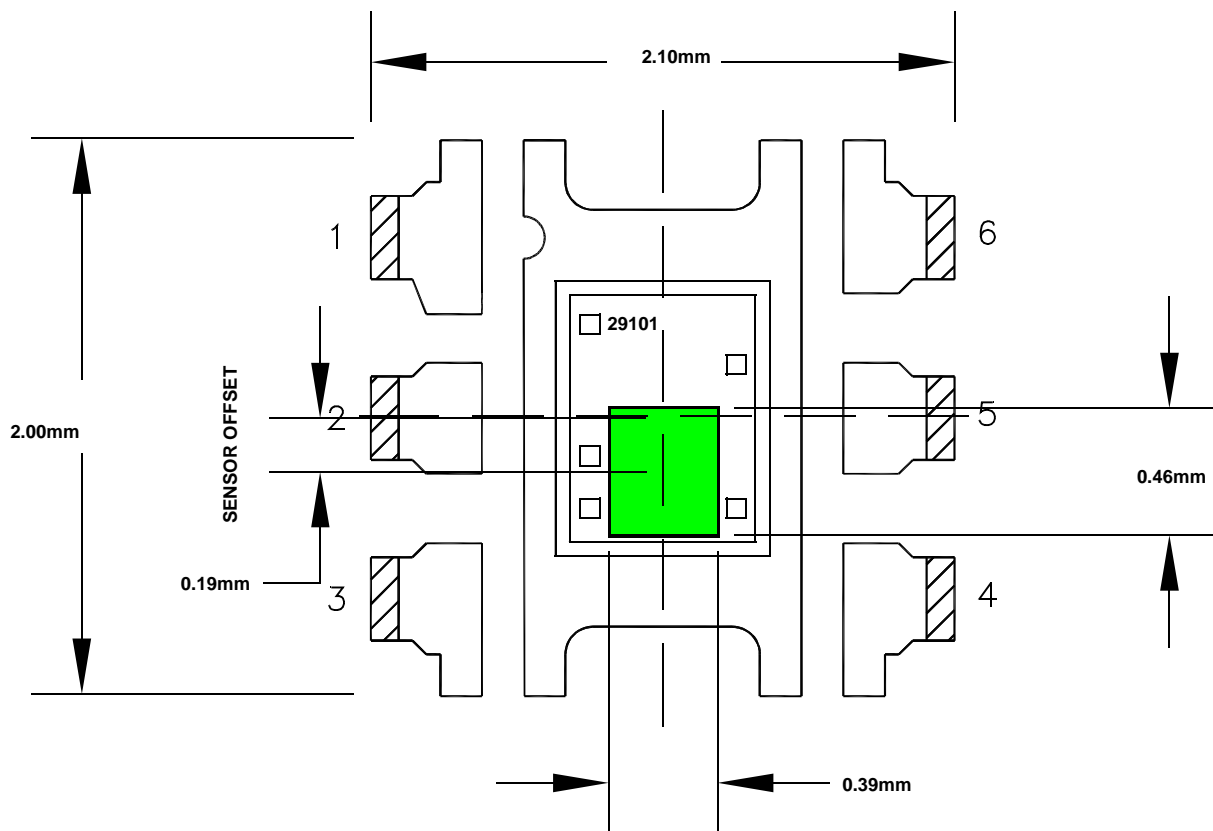

FIGURE 17. 6 LD ODFN SENSOR LOCATION OUTLINE
The green area in Figure 17 shows the optical sensor location outline of ISL29101. Along the pin-out direction, the center line (CL) of the sensor coincides with that of the packaging. The sensor width in this direction is 0.39mm. Perpendicular to the pin-out direction, the CL of the sensor has an 0.19mm offset from the CL of packaging away from pin-1. The sensor width in this direction is 0.46mm.